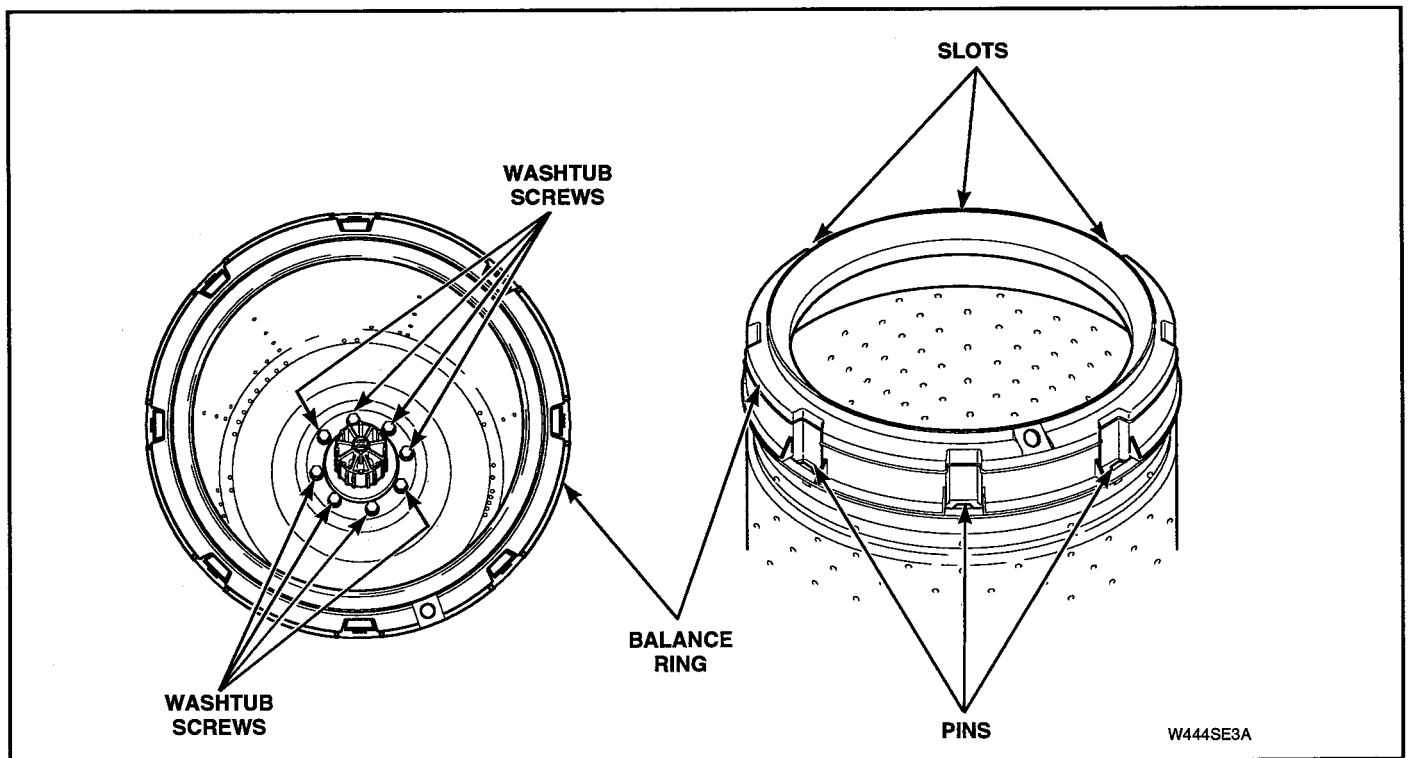

Figure 5-32
m. Remove screws and washers holding washtub to hub. See Figure 5-32.
- i. Remove screws holding washtub to hub. See Figure 5-32. Then lift washtub out of outer tub.